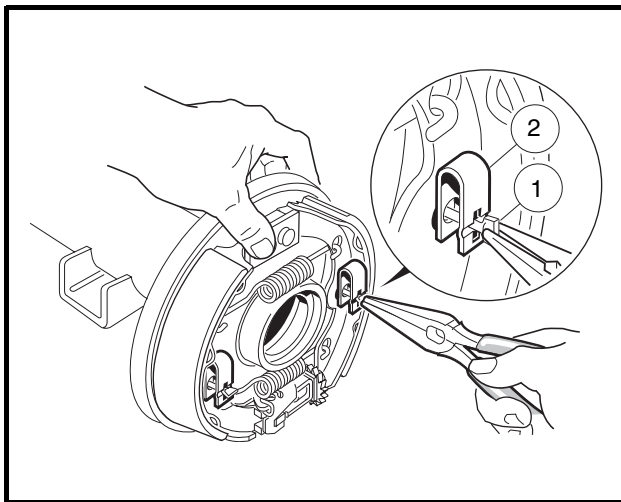

Figure 6-5 Remove Shoe Retainer Clip
- Using needle nose pliers, turn the clip retainer pin (1) 90° to remove the shoe retainer clip (2) (**Figure 6-5, Page 6-4**). See following **CAUTION**.